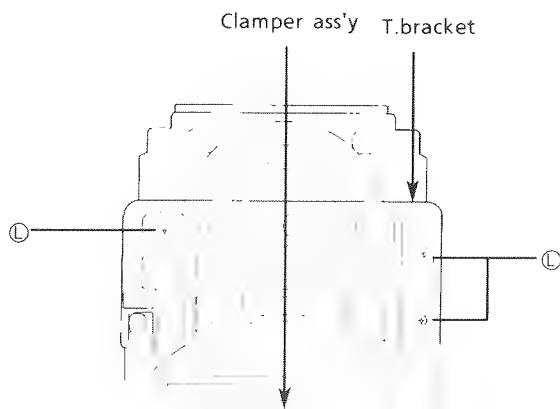

Fig.29
4. Remove 3 screws ④ securing T.Bracket.(See Fig. 29.)